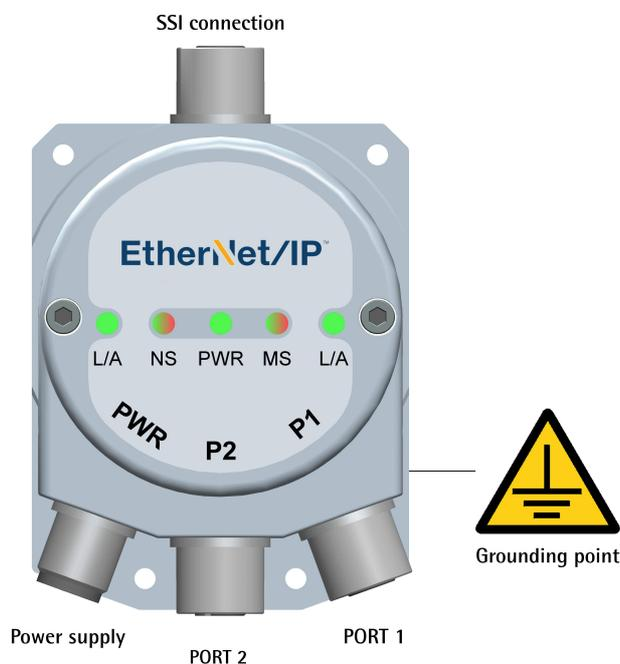

Figure 4 - IF55 EP
4.2 SSI connection (Figure 4)
4.3 Power supply and EtherNet/IP interface connectors (Figure 4)
4.3.1 PWR Power supply connector (Figure 4)
4.3.2 P1 Port 1 and P2 Port 2 connectors (Figure 4)